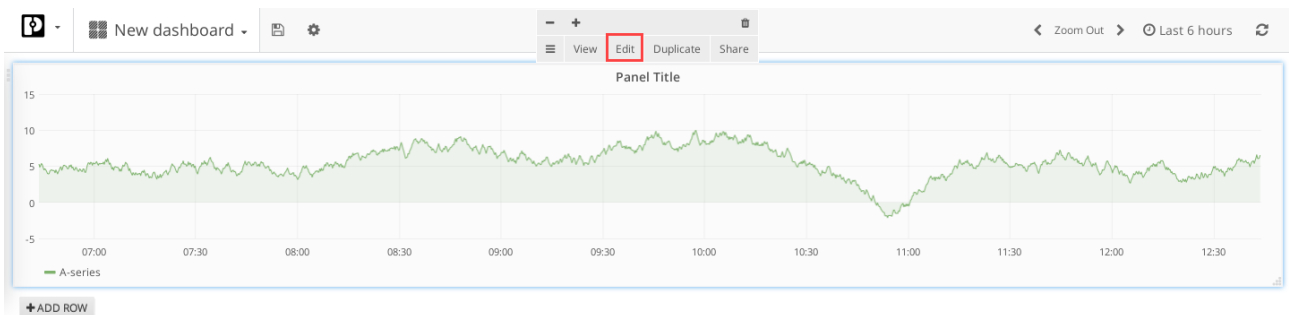

Figure 7-10 Grafana: Example graph; Edit Panel Title
- An example display opens for the selected graphical display (see Figure 7-10).